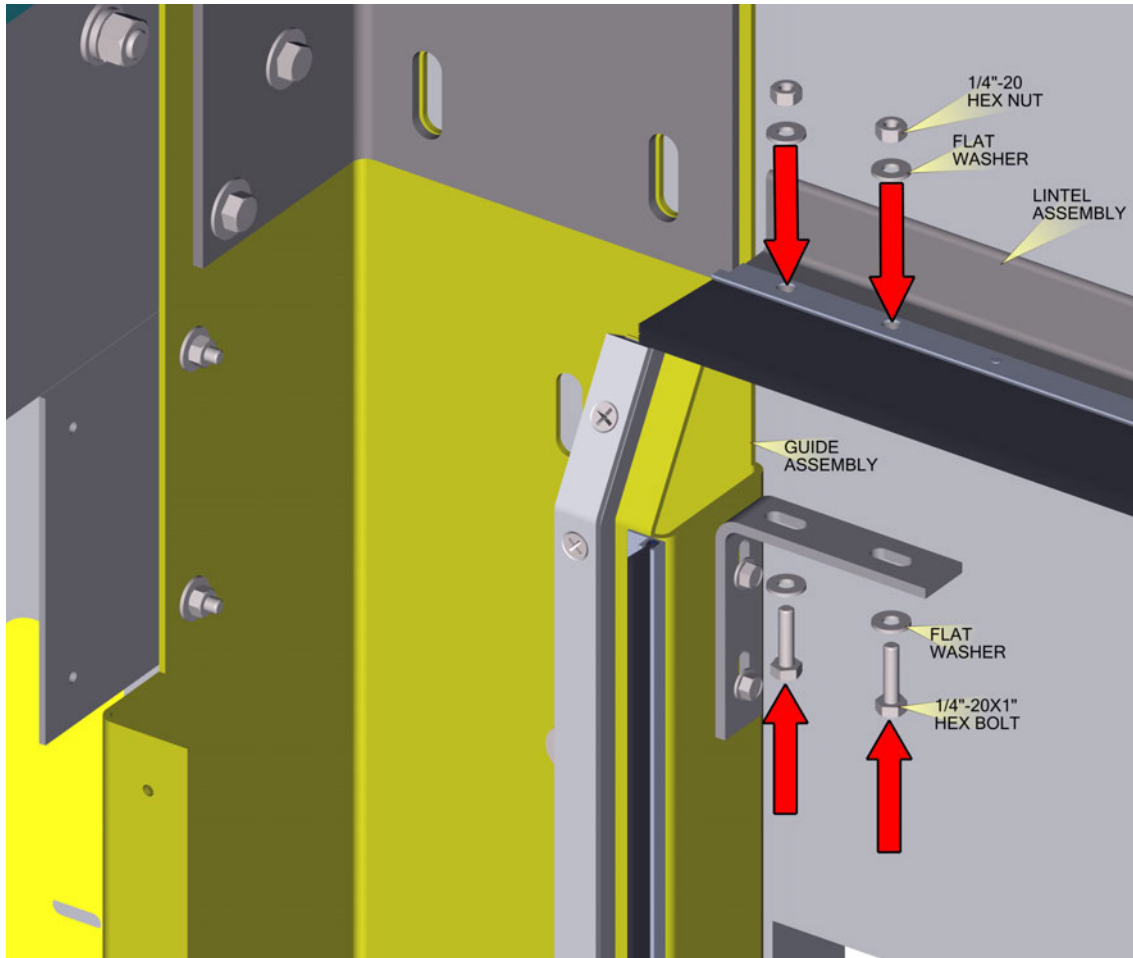

Fig 6
- Attach the lintel assembly to the bracket on each headplate, as shown in FIG 6 AND FIG 6A.